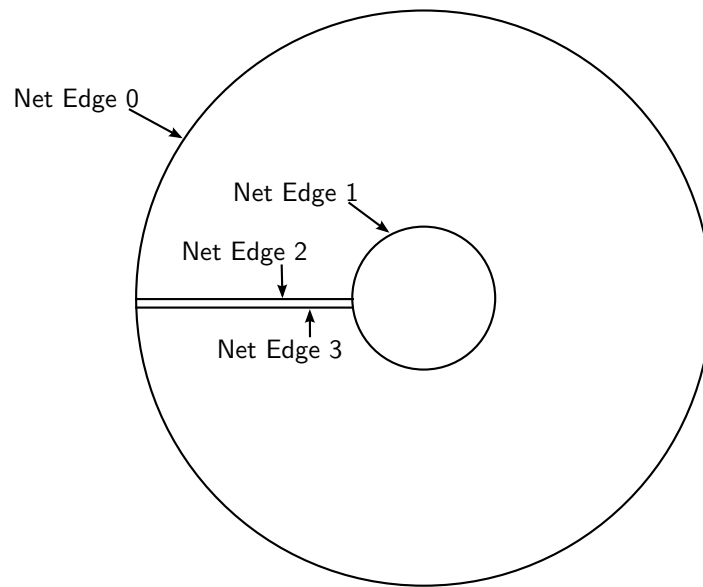

Figure 38: DiskNet1
- ✧ The edge locations created with the disk net IC generator are shown in Figure 38. To prevent edge 2 and edge 3 from becoming disconnected, set \$Edge2Ring to 1.